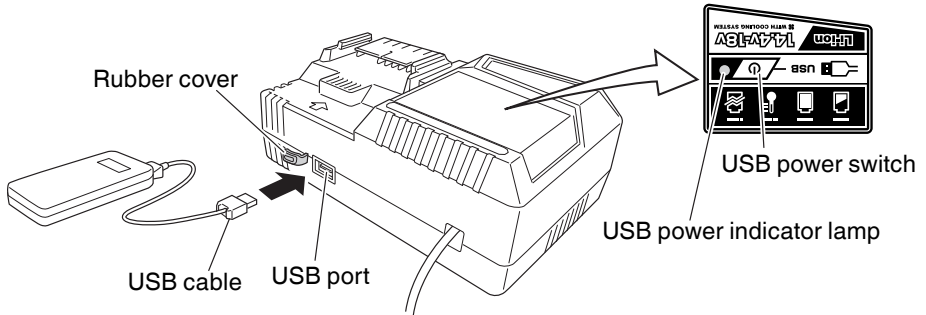

Fig.4
(2) Turn the USB power switch ON (Fig. 4)
(3) Connect the USB cable. (Fig. 4)
- Turn the USB power switch OFF and unplug the power cord from the electrical outlet. (Fig. 4)